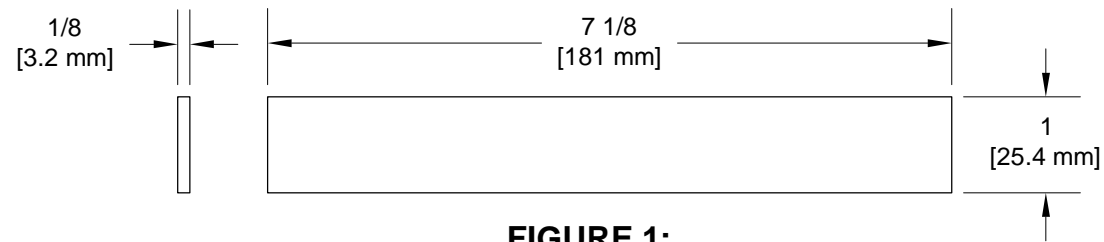

FIGURE 1:
Step 1: Cut to length four F-01241 (UHMW plastic bar) as shown in Figure 1.